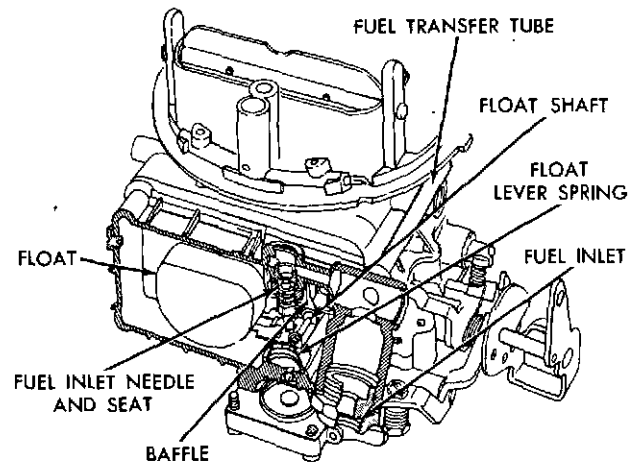

FIG. 4 Fuel Inlet System
5. Remove the distributor from the press. Install the collar retaining pin (Figure 6) and the gear retaining pin (Figure 4).
Many different types of floats have been used. Early production used side hinged rectangular brass floats. There were two different versions of this float. Later production used a half moon brass float (Figure 4) or a nitrophyl (cellular plastic material) float (Figure 5).